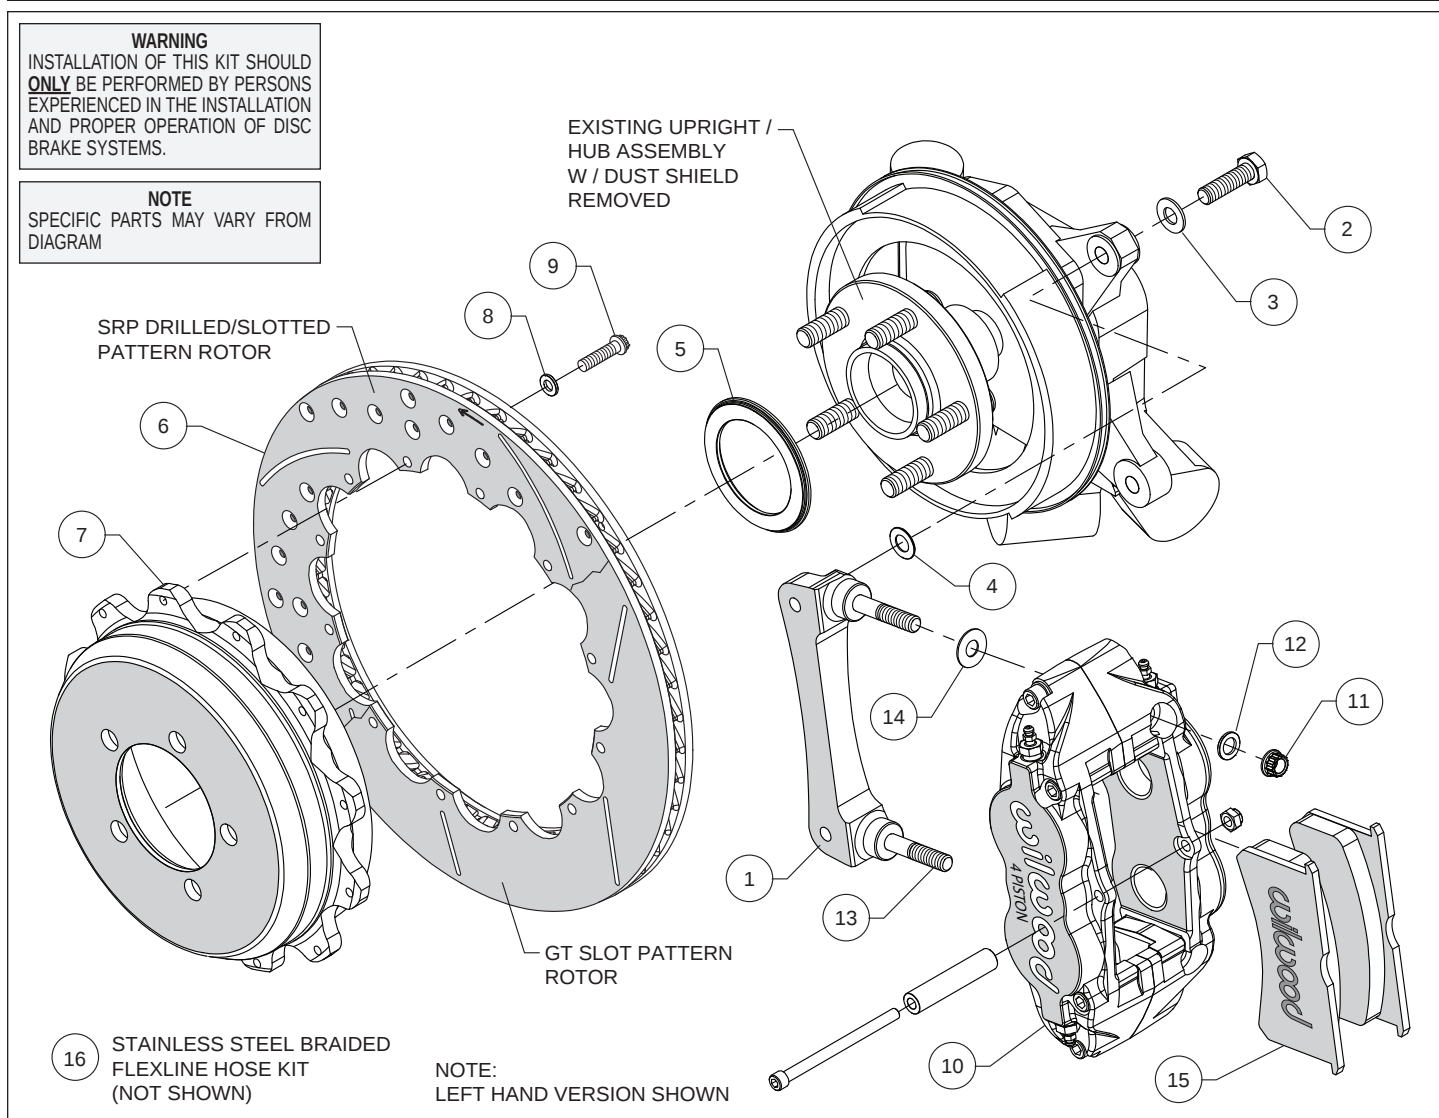
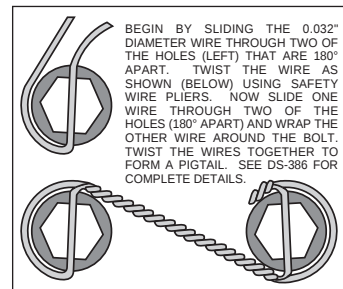

Figure 1. Typical Installation Configuration
Figure 3. Safety Wire Diagram
Assembly Instructions (numbers in parenthesis refer to the parts list and Figure 1 on the preceding pages):
- The caliper mount bracket (1) should initially be installed with clean, dry threads on the mounting bolts. Orient the bracket as shown in Figure 1 and Photo 2, and install using washers (3) and bolts (2). Initially place one shim (4) on each bolt between the bracket and upright, Figure 1. Temporarily tighten the mounting bolts. **NOTE:** The bracket must fit squarely against the mount bosses on the upright. Inspect for interference from casting irregularities, machining ridges, burrs, etc. Later, after the caliper alignment has been checked, the mount bolts will be secured using red *Loctite*® 271.
- Orient the rotor (6) and the hat (7) as shown in Figure 1 and Photo 3. Attach rotor to hat using bolts (9) and washers (8). Using an alternating sequence, apply red *Loctite*® 271 to the threads, and torque to 140 in-lbs. For an added measure of security, the bolts may be safety wired using standard 0.032 inch diameter stainless steel safety wire as shown in Figure 3. Please refer to Wilwood's data sheet DS-386 (available at www.wilwood.com/Pdf/DataSheets/ds386.pdf) for complete safety wire installation instructions.
- Lubricate the caliper mounting studs (13) with lightweight oil. Initially place one .035" thick shim (14) on each stud as shown in Figure 1 and Photo 5. Mount the caliper (10) onto the bracket (1) using lock nuts (11) and washers (12), Figure 1. Temporarily tighten the lock nuts and view the rotor through the top opening of the caliper. The rotor should be centered in the caliper, Photo 6. If not, adjust by adding or subtracting shims (4) between the bracket and the upright. Once the caliper alignment is correct, remove the bracket mounting bolts one at a time, apply red *Loctite*® 271 to the threads, and torque to 40 ft-lb.